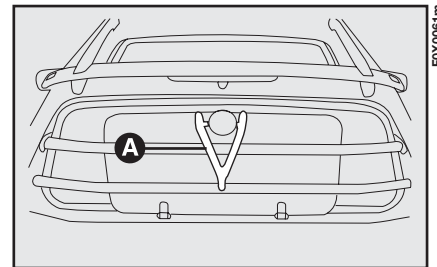

fig. 80
– insert the sun roof glass, using the tilting ring nut located near the luggage compartment in the space between the rear window and the protective mesh; then slide it between the two guides provided, as illustrated in fig. 80;